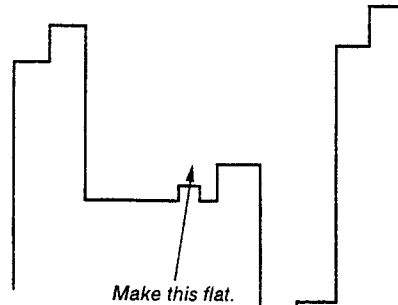

Fig. 18
- 6) Adjust **[PHASE NTSC 443 NOR]** so that the output waveform burst section is a straight line. (Fig. 18)